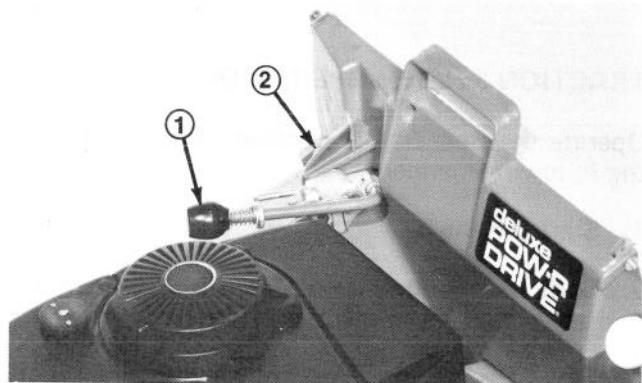

Figure 21
3. Slide guide hole in bag door onto locating stud on mower housing (Fig. 21); then rest rear of bag frame onto handle pins.